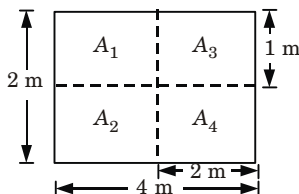

Fig. 8.
- i. The rectangular area divided into small rectangle is shown in Fig. 8.